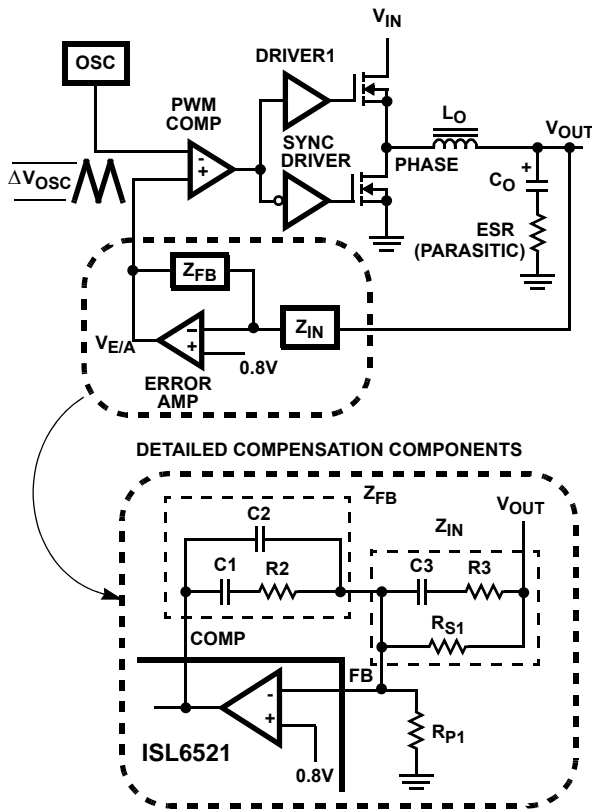
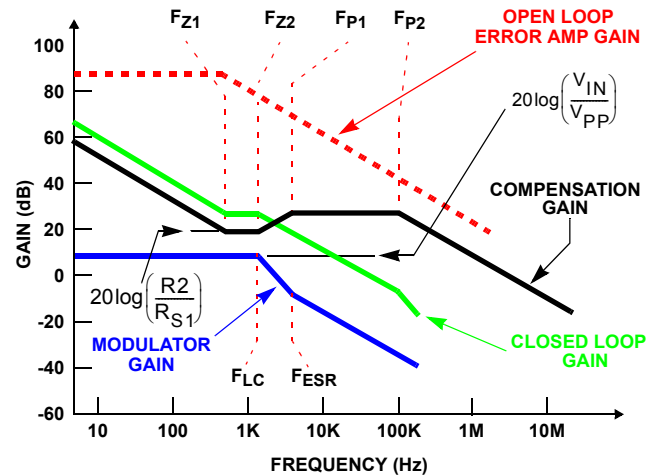

FIGURE 5. VOLTAGE-MODE BUCK CONVERTER COMPENSATION DESIGN
FIGURE 6. ASYMPTOTIC BODE PLOT OF CONVERTER GAIN
Figure 5 highlights the voltage-mode control loop for a synchronous-rectified buck converter. The output voltage (V_{OUT}) is regulated to the reference voltage level, 0.8V. The error amplifier (Error Amp) output ($V_{E/A}$) is compared with the oscillator (OSC) triangular wave to provide a pulse-width modulated (PWM) wave with an amplitude of V_{IN} at the PHASE node. The PWM wave is smoothed by the output filter (L_O and C_O).
and Z_{FB} . The goal of the compensation network is to provide a closed loop transfer function with high 0dB crossing frequency (f_{0dB}) and adequate phase margin. Phase margin is the difference between the closed loop phase at f_{0dB} and 180 degrees. The equations below relate the compensation network's poles, zeros and gain to the components ($R1$, $R2$, $R3$, $C1$, $C2$, and $C3$) in Figure 5. Use these guidelines for locating the poles and zeros of the compensation network:
Figure 6 shows an asymptotic plot of the DC-DC converter's gain vs. frequency. The actual Modulator Gain has a high gain peak dependent on the quality factor (Q) of the output filter, which is not shown in Figure 5. Using the above guidelines should yield a Compensation Gain similar to the curve plotted. The open loop error amplifier gain bounds the compensation gain. Check the compensation gain at F_{P2} with the capabilities of the error amplifier. The Closed Loop Gain is constructed on the log-log graph of Figure 6 by adding the Modulator Gain (in dB) to the Compensation Gain (in dB). This is equivalent to multiplying the modulator transfer function to the compensation transfer function and plotting the gain.